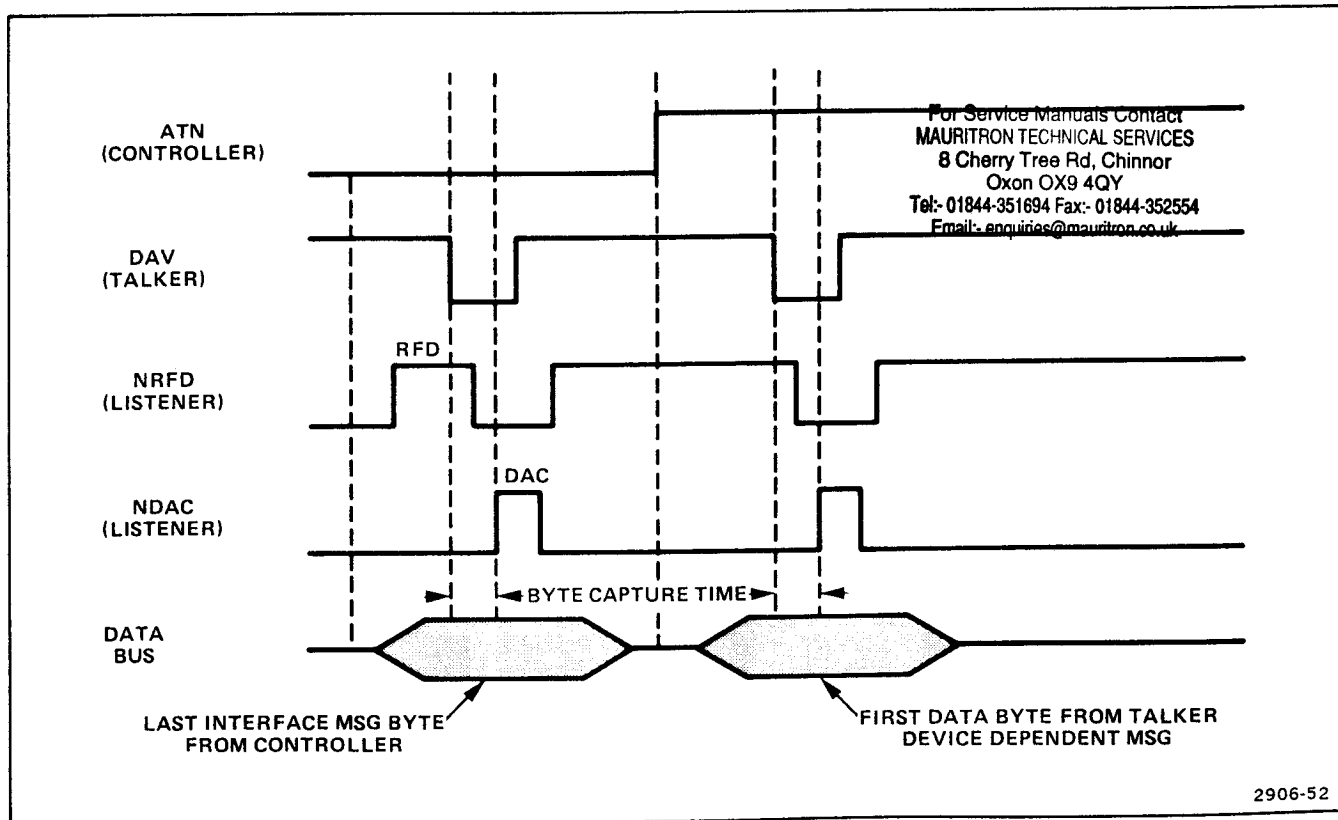

Figure 6-3. A typical handshake timing sequence (idealized).
**THE TRANSFER BUS (HANDSHAKE).** Each time a data byte is sent over the data bus, an enabled talker and all enabled listeners execute a handshake sequence via the transfer bus. A typical handshake routine showing the activity on the transfer-bus signal lines is illustrated in Figure 6-3. The attention (ATN) line is also shown to illustrate the controller's role in the process.